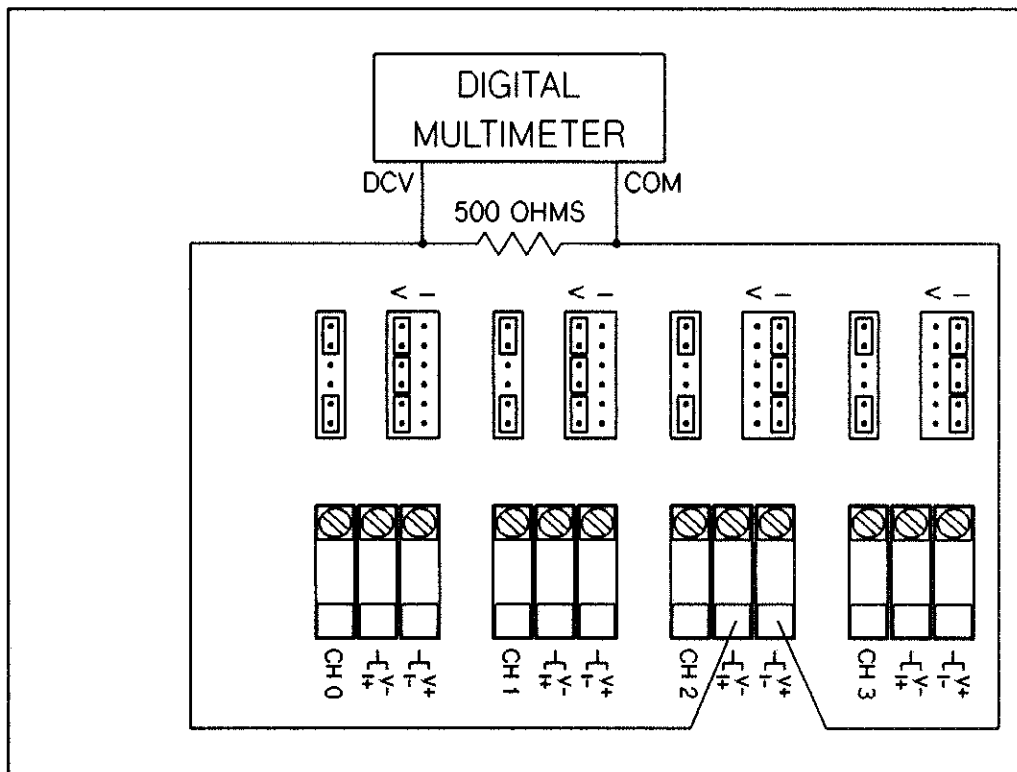

Figure 15-15 HP 44727A/B/C Load Regulation High Connection
8. Set the multimeter to measure dc volts. On the test fixture, connect the multimeter DCV input to the I+ connection and connect the COM input to the I- connection of the channel to be tested. Connect the 500 ohm resistor across the channel's I+ and I- connections. The connections are shown in Figure 15-15.